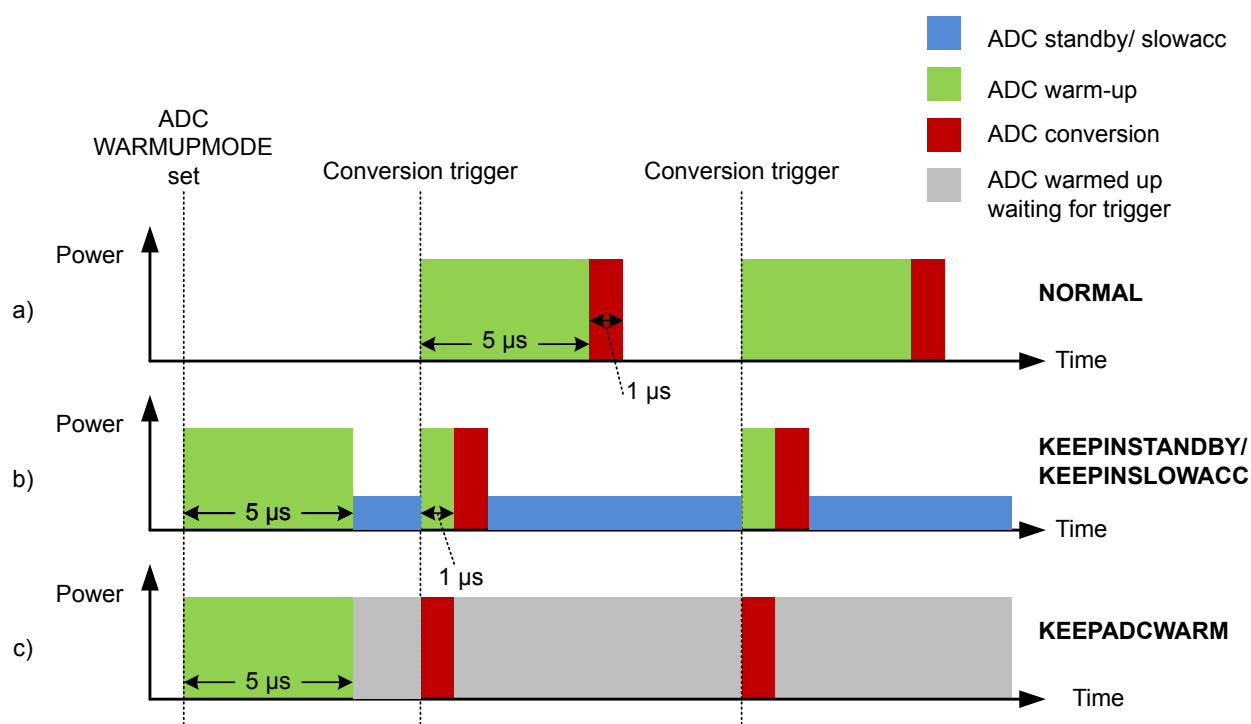

Figure 26.4. ADC Analog Power Consumption With Different WARMUPMODE Settings
Normally, the ADC will be warmed up only when samples are requested and is shut off when there are no more samples waiting. However, if lower latency is needed, configuring the WARMUPMODE field in ADCn_CTRL allows the ADC and/or reference to stay warm between samples, reducing the warm-up time or eliminating it altogether. Figure 26.4 ADC Analog Power Consumption With Different WARMUPMODE Settings on page 872 shows the effects on analog power consumption in scenarios using different WARMUPMODE settings.
- **NORMAL:** This is the lowest power option for general-purpose use and low sampling rates (below 35 ksps). The ADC and references are shut off when there are no samples waiting. The ADC does not consume any power when it is shut down. A 5 μ s warmup time will be initiated prior to every conversion. Figure a in Figure 26.4 ADC Analog Power Consumption With Different WARMUPMODE Settings on page 872 shows this mode.
- **KEEPINSTANDBY:** This mode is suitable for infrequent sampling of lower impedance inputs, and is the lowest power option for sampling rates between about 35 and 125 ksps. It may also be useful for lower sampling rates where latency is important. The reference selected for scan mode is kept warm, but the ADC is powered down. The ADC will initiate a 1 μ s warmup period before a conversion begins. Because the reference is kept warm, the ADC will consume a small amount of standby current when it is not converting. Figure b in Figure 26.4 ADC Analog Power Consumption With Different WARMUPMODE Settings on page 872 shows this mode.
- **KEEPADCWARM:** This mode provides the lowest latency and allows for maximum sampling rates. The ADC and reference circuitry remain powered on even when conversions are not in progress. Figure c in Figure 26.4 ADC Analog Power Consumption With Different WARMUPMODE Settings on page 872 shows this mode. This mode consumes the most power, but as soon as a trigger event occurs, the acquisition and conversion begin with no warm-up time. Note that if KEEPADCWARM mode is set and HFXO is selected as the ADC clock source, the HFXO will remain on in EM2.